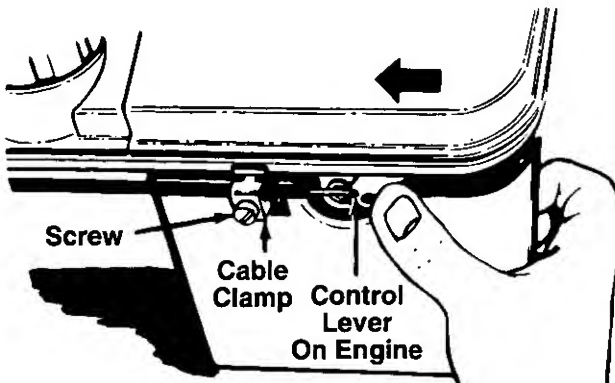

FIGURE 15.
1. Remove the screw shown in figure 15. Remove the cable clamp from the cable.